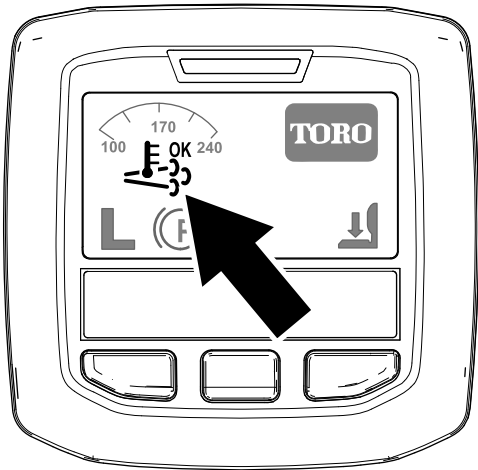

Figure 32
- The assist/reset-regeneration icon displays in the InfoCenter (Figure 32).